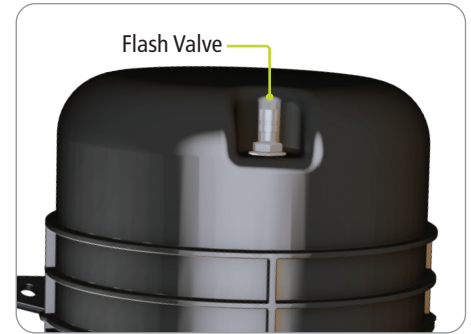

Figure 55
1. Apply maximum of 5 PSI of air to the flash valve on dome. (Figure 55)